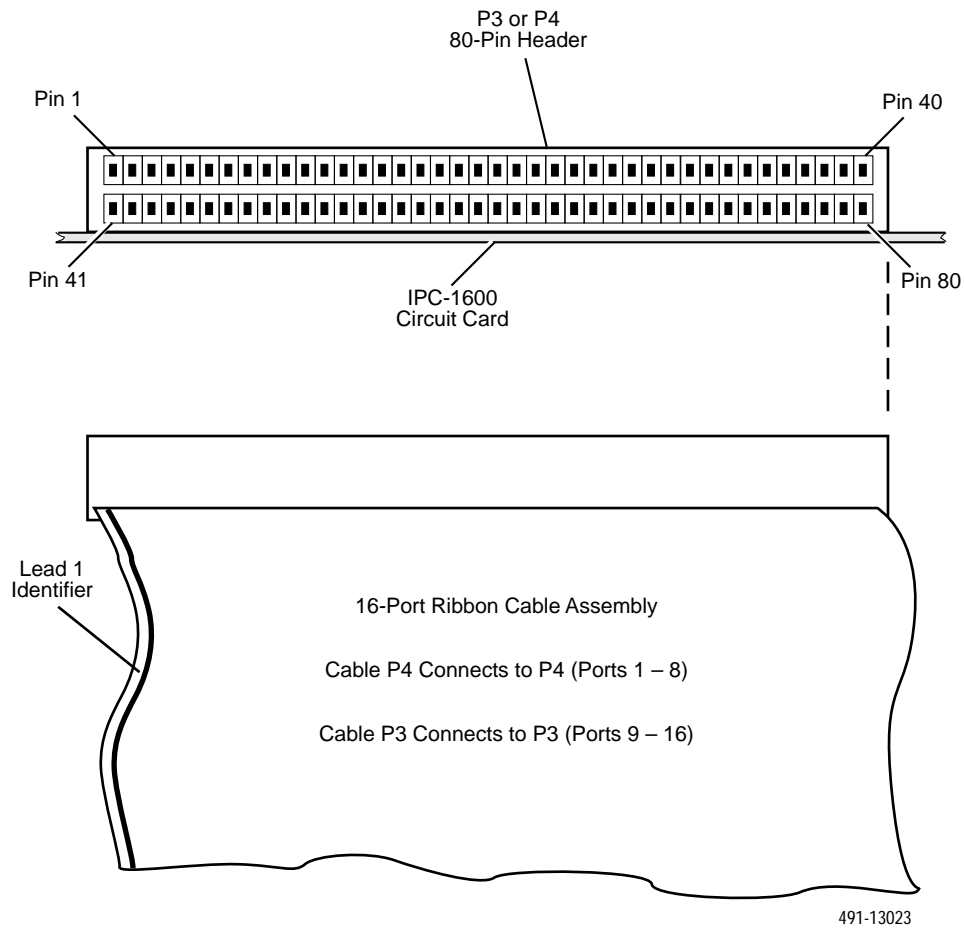

Figure 2-12. 80-Pin Headers P3 and P4 Connector Identification
3. Connect the cable marked P3 for Ports 9 through 16 to header P3. Connect the cable marked P4 for Ports 1 through 8 to header P4. The connectors are keyed for proper alignment with the 80-pin headers on the card, as shown in Figure 2-12. Make sure that the retaining clips are properly secured.